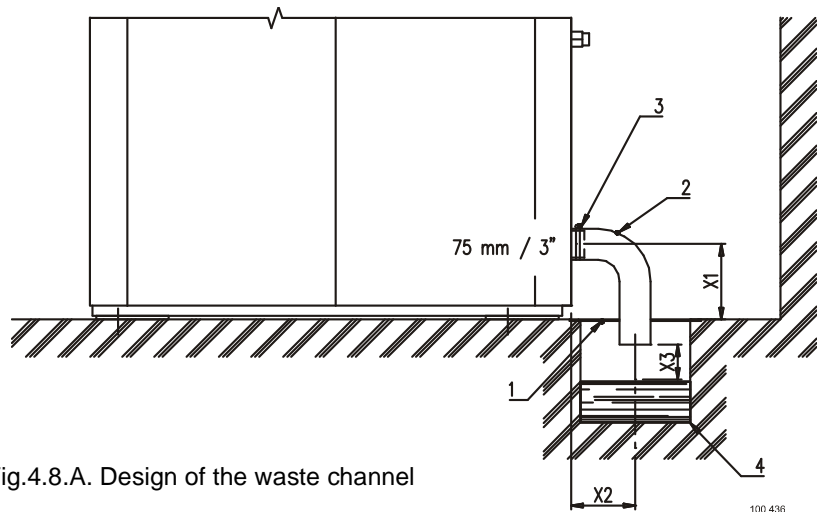

Fig.4.8.A. Design of the waste channel
The main drain pipe must have the capacity to be able to handle the total output of all connected machines. There must also be a hole every twenty meter in the drainpipe, fig.4.8.B., pos.1 to assure the good working of the drain. This allows air in the main drain and facilitates drainage of the water flow. Every time a machine is coupled on the drainpipe, the diameter of the tube or the width of the waste channel must be more. See, fig.4.8.B., D1, D2, D3.